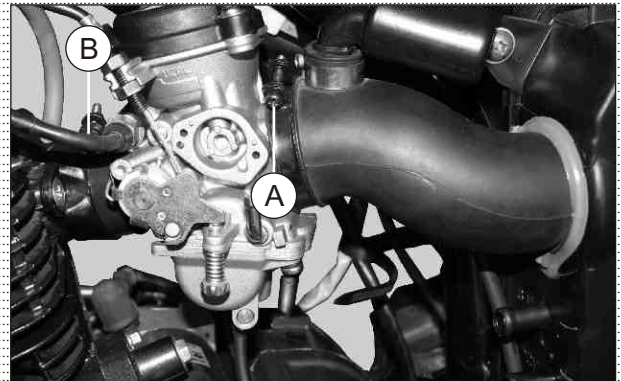

Fig. 3.32
- Loosen clamp outlet pipe screw (A). (Fig. 3.32)
- Loosen clamp intake pipe screw (B) from the other side of the carburettor. (Fig. 3.32)